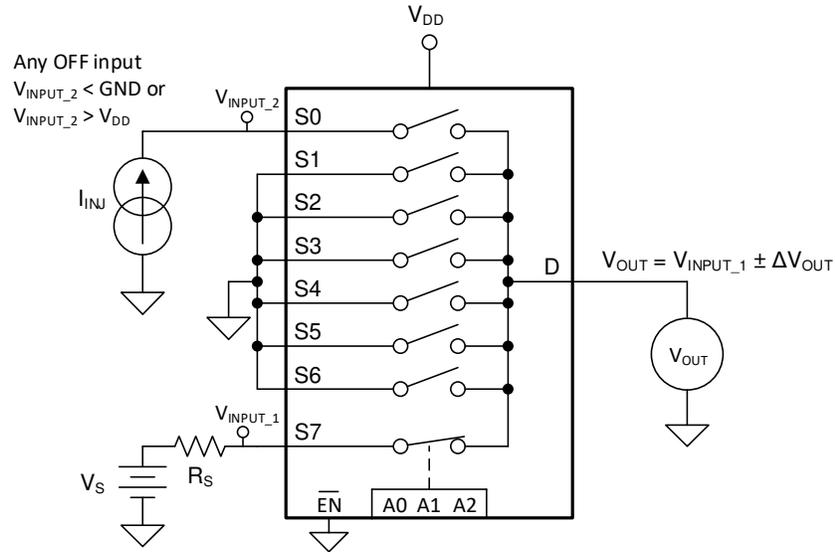

**Figure 8-10. Bandwidth Measurement Setup**
Bandwidth is defined as the range of frequencies that are attenuated by less than 3 dB when the input is applied to the source pin (Sx) of an on-channel, and the output is measured at the drain pin (D) of the device. **Figure 8-10** shows the setup used to measure bandwidth.